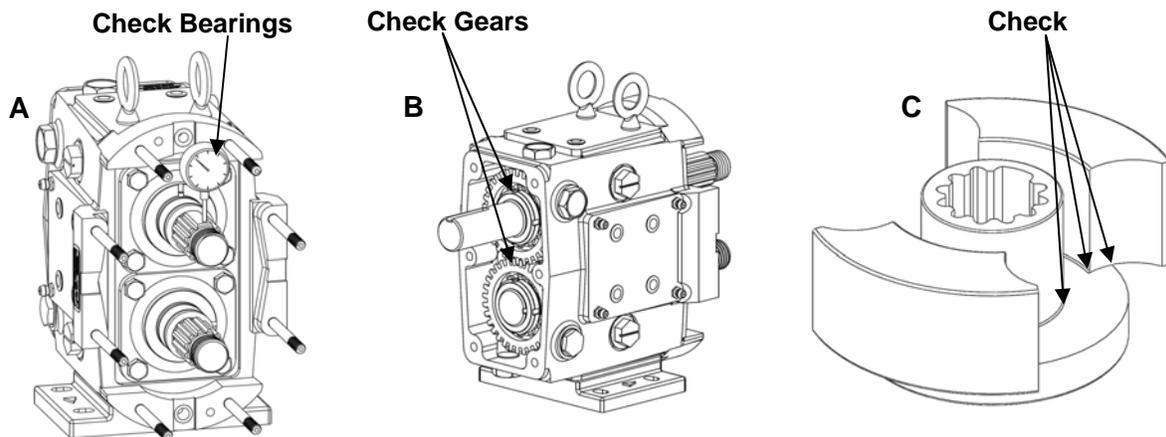

Figure 22: Annual Maintenance Checks
- Check the gear case bearings by measuring the shaft's radial movement with a dial indicator (Figure 22, A). If the movement is greater than or equal to the rotor-to-body clearance found on page 30 (Table 8) the bearings should be replaced.
- Remove the gear casing cover (See page 21 for disassembly information) and inspect the gears for wear and damage (Figure 22, B). Also check for backlash and looseness.
- Inspect the rotors for signs of wear and stress cracks around the areas defined in Figure 22, C. Replace, if necessary.